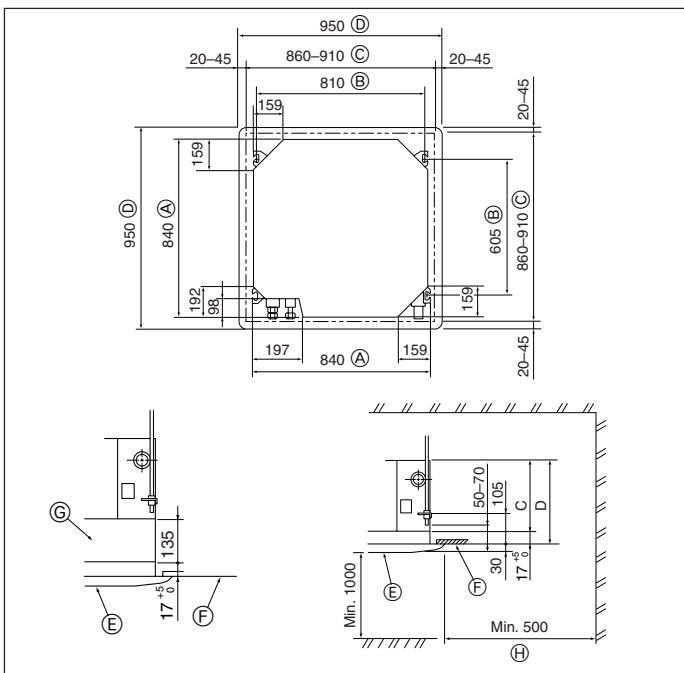

Fig. 2-2
2.2. Ceiling openings and suspension bolt installation locations (Fig. 2-2)
- (A) Outer side of main unit
- (B) Bolt pitch
- (C) Ceiling opening
- (D) Outer side of Grille